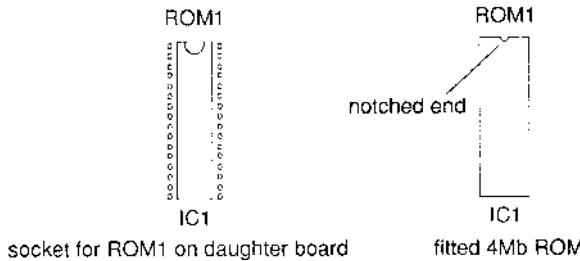

Figure 6 Positioning a 4Mb ROM
- 3 Each of the RISC OS 3 4Mb ROMs has a semi-circular notch at one end. When inserting a chip, position this end towards the notched end drawn on the silk screen of the socket of the daughter board, as shown in Figure 6 below.